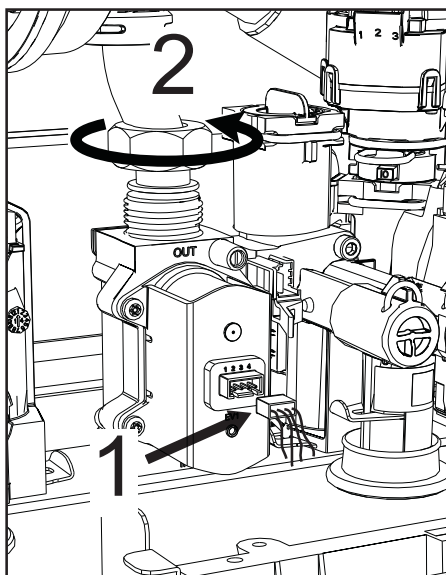

fig. 44
- Disconnect the electrical connectors “1” (fig. 44).
- Disconnect the gas supply pipe “2” (fig. 44)